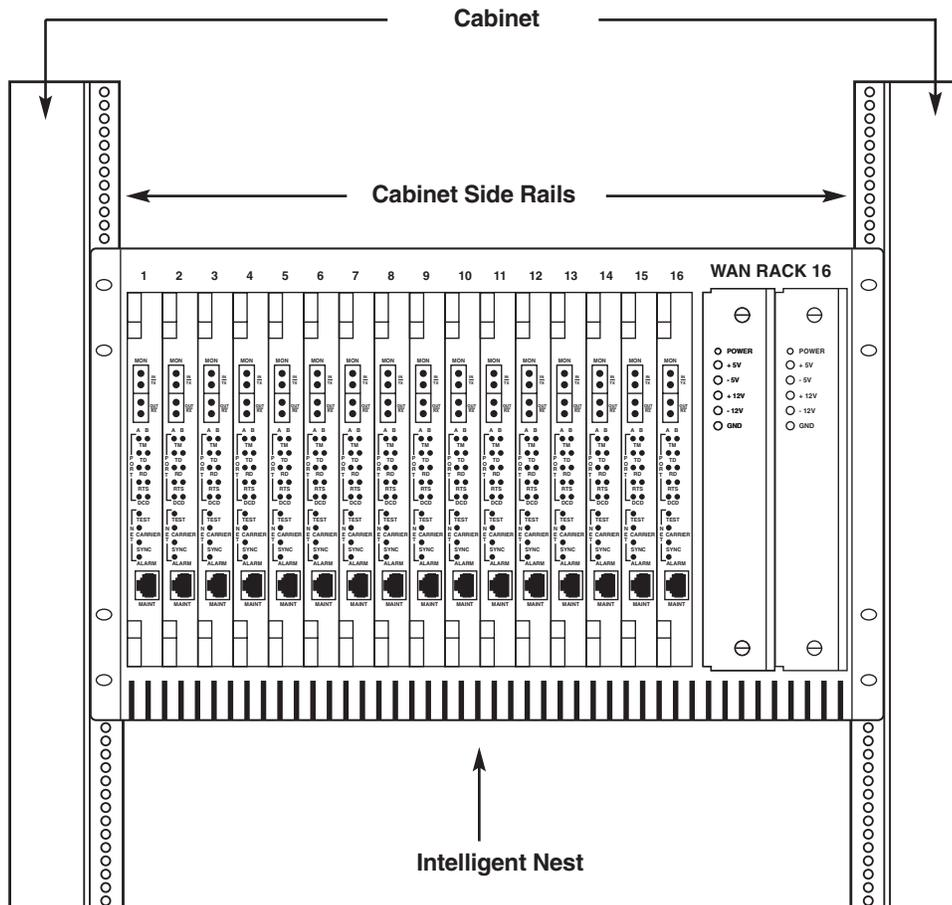

Figure 3-2. Rack-Mounting the WAN Rack 16.
1. Maneuver the WAN Rack through the front opening of the cabinet. Align the eight holes located in the side brackets (previously installed) over the selected set of holes in the cabinet's side rails. See Figure 3-2.
2. Secure the WAN Rack to the cabinet's side rails using the eight screws provided. See Figure 3-2.